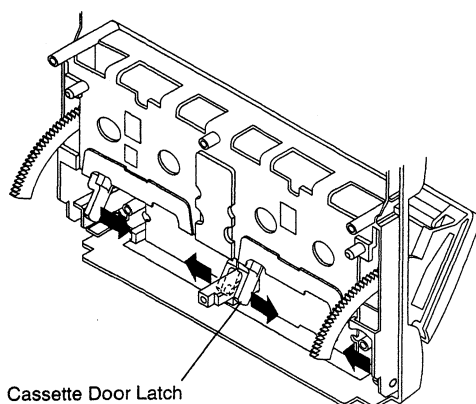

Fig. 12
- (1) Remove the 2 eject springs.
- (2) Remove 2 screws ㉒ and then remove the eject bracket.
12. Removal of Cassette Door (Fig. 12)